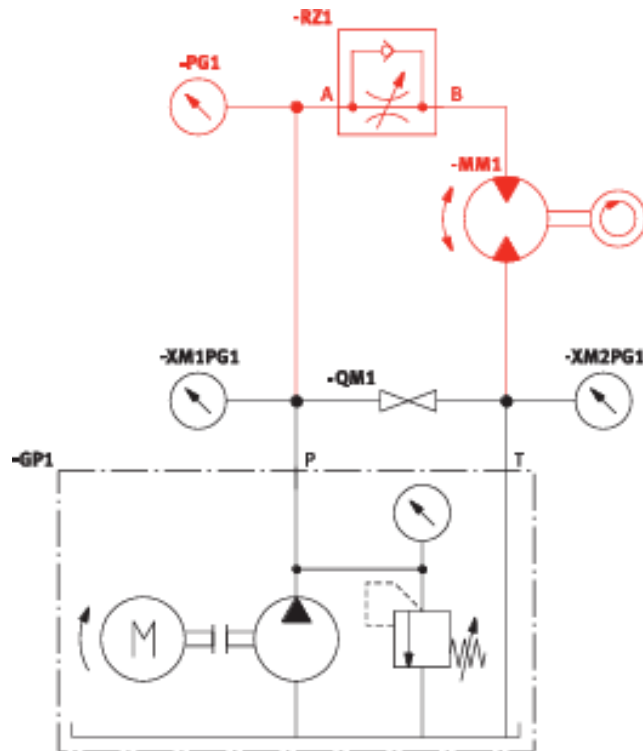

Figure 5.15: A circuit for controlling the speed and direction of a hydraulic motor.
**3. Circuit Analysis: Reversible Speed Control** Figure 5.15 shows a standard circuit for controlling a motor's speed and direction.
2. Build the circuit as shown in Figure 5.15. You will need: